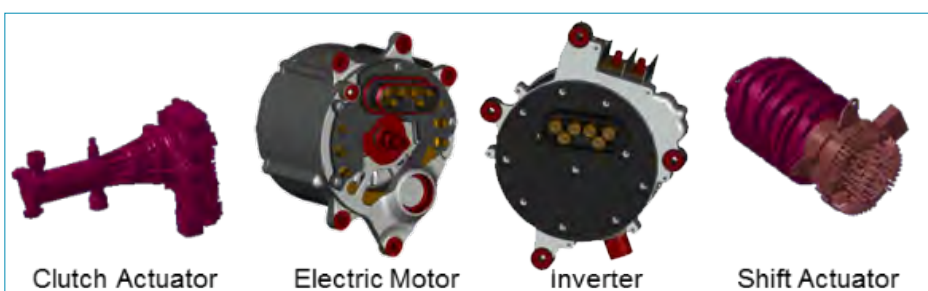

Figure 1 Hybrid component kit
- Off-the-shelf components for specific hybridization and automation elements (like e-motor, inverter, e-clutch actuator, etc.), **Figure 1**. This will generate economies of scale and further cost advantages.